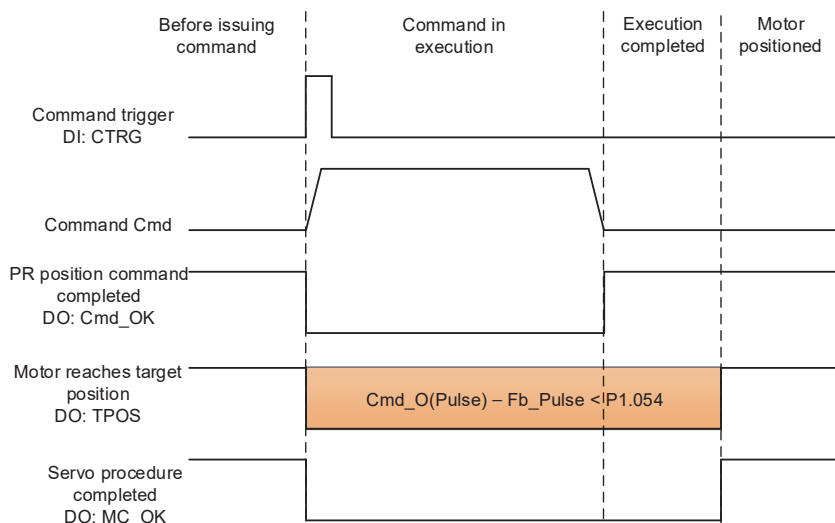

Figure 7-8 Operation of DI signals in PR mode
You can use the digital inputs (DI) to trigger PR paths and digital outputs (DO) to monitor PR paths (refer to section 8.4.9 and 8.4.10 for DI and DO function descriptions). When you trigger the motion command with DI.CTRG [0x08], the servo drive operates based on the command from the internal registers. See section 7.1.5 for all the trigger methods for the PR paths. Once the execution is completed, DO.Cmd\_OK [0x15] is set to on. When the position deviation (pulse number) becomes smaller than the set amount in P1.054, DO.TPOS [0x05] (Motor reaches the target position) is set to on. When both DO.TPOS and DO.Cmd\_OK signals are on the servo outputs the MC\_OK [0x17] signal to signify that it has completed this PR path. The operation is as shown in Figure 7-8. If you have set a delay time in this PR and the position deviation (pulse number) is smaller than the value of P1.054, DO.TPOS [0x05] is set to on.